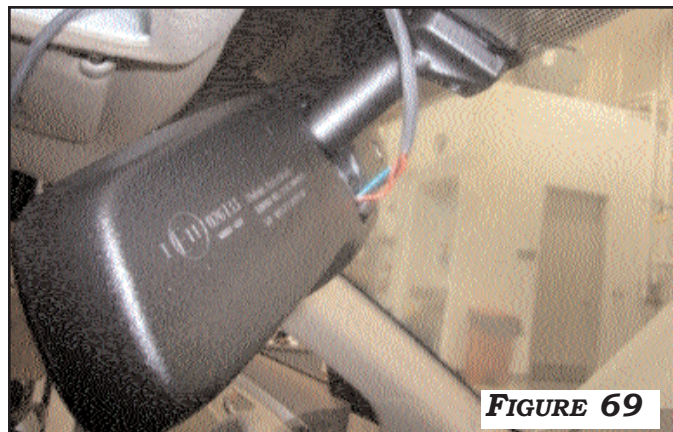

FIGURE 69
1. MOUNT REARSIGHT MIRROR ON EXISTING WINDSHIELD LUG AND TIGHTEN SCREW. **FIGURE 69**